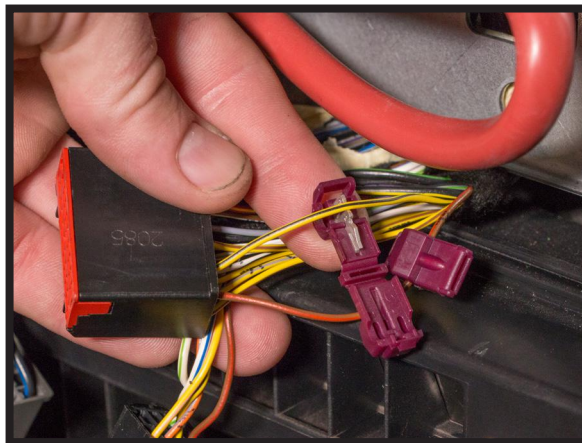

FIGURE 71
6. INSTALL EACH 3-WAY WIRE SPLICE ON THE BLACK 20-PIN CONNECTOR. SEE DIAGRAM BELOW. (FIGURE 71, 72)